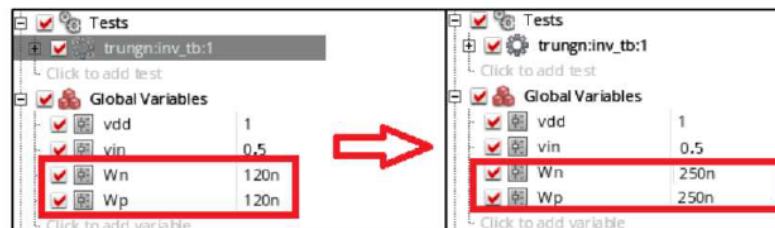

Figure 4. Change value of variables
- We can re-define value of variable at **Global Variables** tab as **Figure 4**.